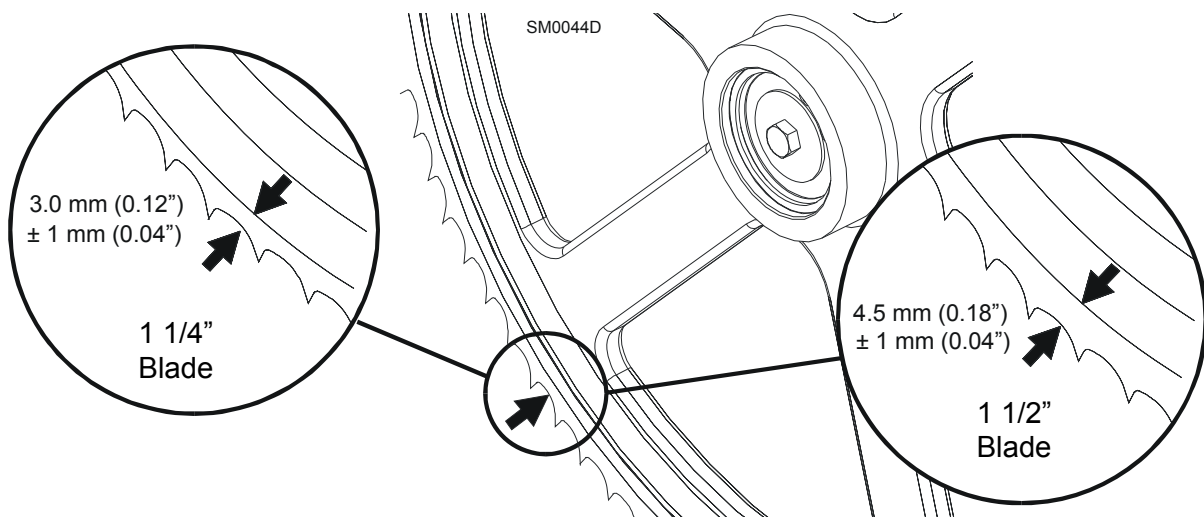

FIG. 2-8
**See Figure 2-8.** 1 1/4" wide blades should be placed on the blade wheels so that the gullet is 3.0 mm (0.12") ± 1.0 mm (0.04") out from the front edge of the wheel.